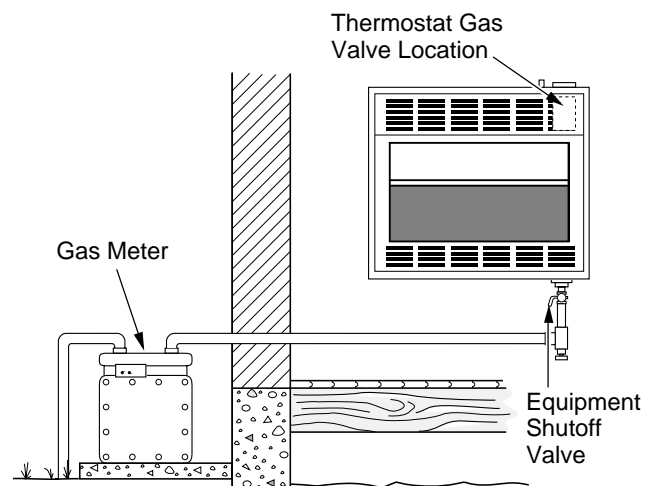
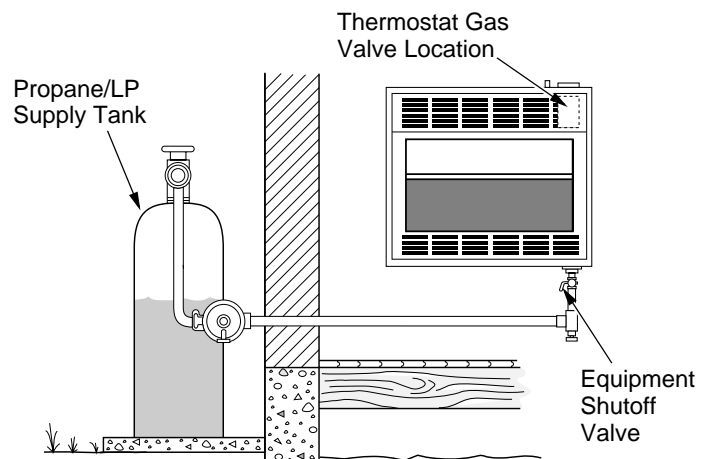

Figure 21 - Checking Gas Joints (Natural Gas)
Figure 22 - Checking Gas Joints (Propane/LP Gas)
3. Check all joints from gas meter to equipment shutoff valve (see Figure 21) for natural gas, or to propane/LP supply tank (see Figure 22). Apply a noncorrosive leak detection fluid to gas joints. Bubbles forming show a leak.
4. Check all joints from equipment shutoff valve to thermostat gas valve (see Figure 21 or 22). Apply a noncorrosive leak detection fluid to gas joints. Bubbles forming show a leak.